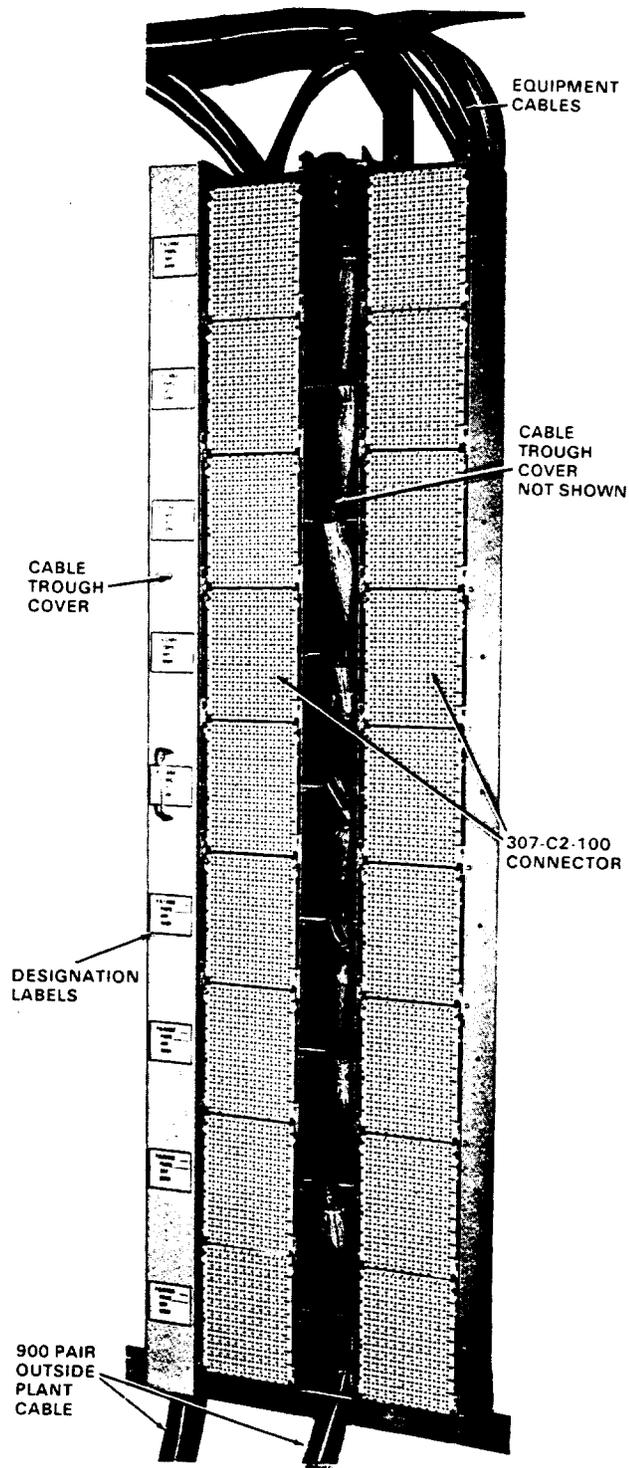

Figure 13—AT-9049B Protector and Cable Enclosure (Left-to-Right Growth) Two B Units Shown (Total Capacity 1800 Pairs)
5.18 The high termination density of this enclosure is well suited to structures with limited floor space such as concrete huts and equipment platforms. The capacity of the protection and cable enclosure is sufficient to accommodate a full complement of *SLC* Series 5 carrier system. The AT-9049 (Figure 13) also serves well as a separate protector frame for large *COSMIC* Mini applications. The modularity of the enclosure permits a wide variety of configurations (Table Y).